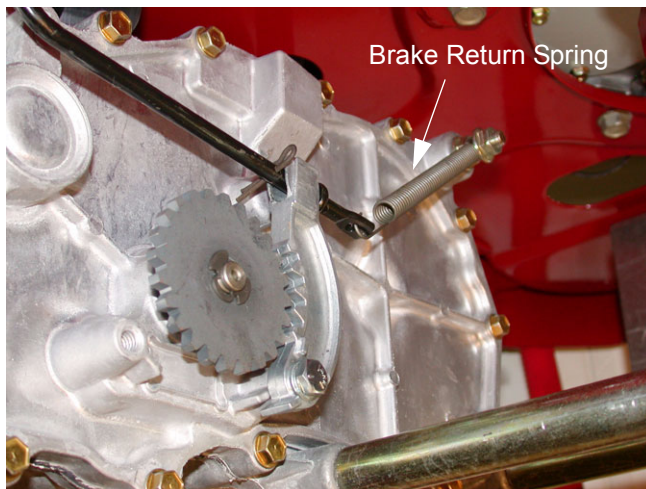

Figure 9.8
- 9.8. Disconnect the brake return spring from the brake arm. See Figure 9.8.